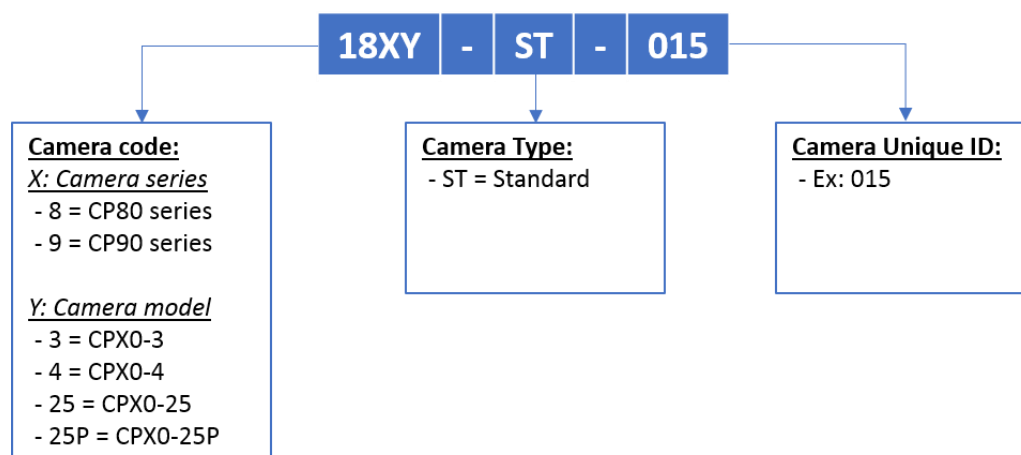

Figure 4: Camera Serial Number Decoder
- S/N.: Camera Serial Number (see Figure 4)